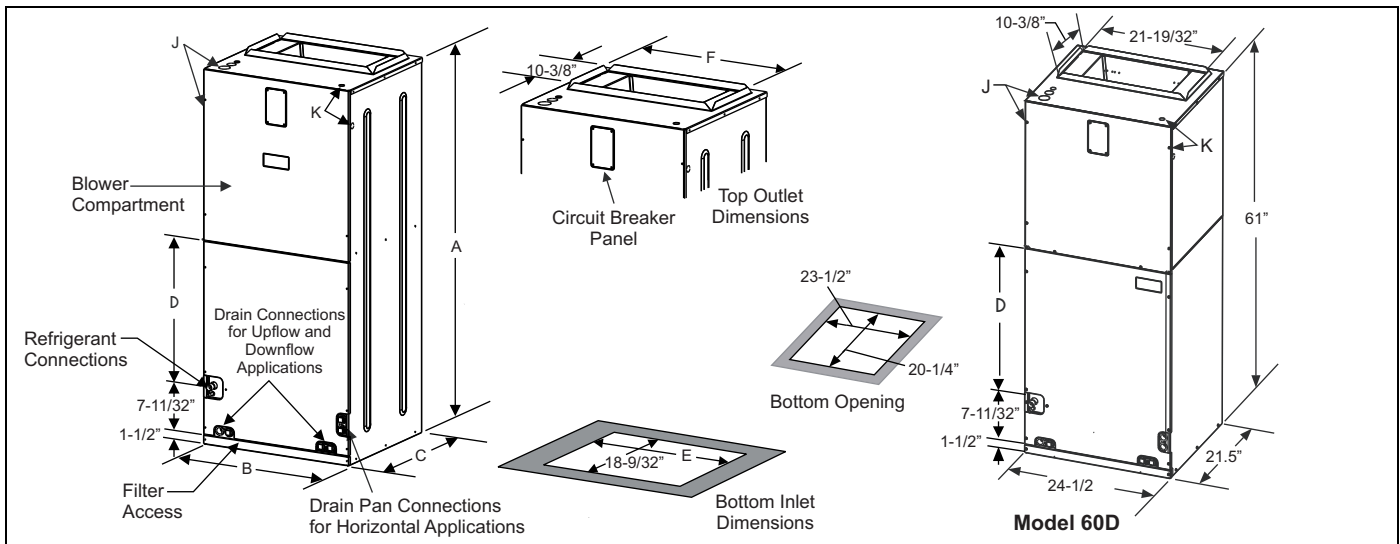

FIGURE 3: Dimensions & Duct Connection Dimensions
2. Refer to the unit rating plate for the air handler model number, and then see the dimensions page of this instruction for supply air plenum dimensions in Figure 3. The plenum must be installed according to the instructions.
Air supply and return may be handled in one of several ways best suited to the installation. See Figure 3 for dimensions for duct inlet and outlet connections.
The supply air duct should be properly sized by use of a transition to match unit opening. All ducts should be suspended using flexible hangers and never fastened directly to the structure. This unit is not designed for non-ducted (freeblow) applications. Size outlet plenum or transition to discharge opening sizes shown in Figure 3.
Air filters must be field supplied. A 1" filter access rack has been built into the unit (except for AHX60, which requires an external filter). See Figure 3. Remove filter access cover shown. Install proper size filter. Standard 1" size permanent or throw away filter may be used, or permanent washable filters are available using model numbers: 1PF0601, 602, 603, 604BK. See Table 7 for filter size.